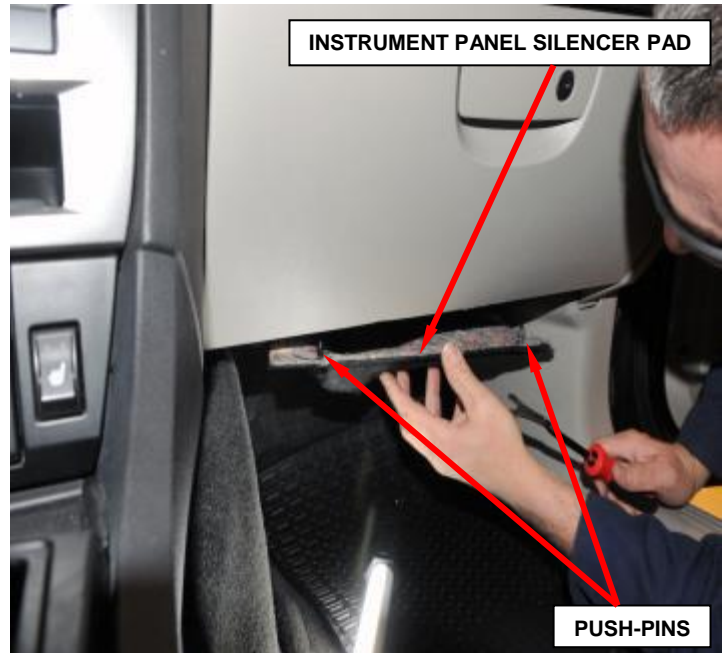

Figure 15 - Instrument Panel Silencer
- a. Remove and save the two push-pins that secure the instrument panel silencer to the instrument panel (Figure 15).